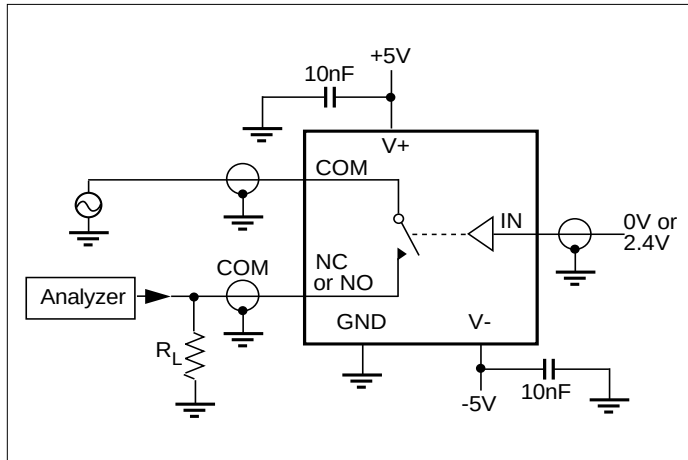

Figure 5. Off Isolation
7. Off Isolation = $20 \log_{10} [V_{COM} / (V_{NO} \text{ or } V_{NO})]$. See figure 5.
7. Off Isolation = $20 \log_{10} [V_{COM} / (V_{NO} \text{ or } V_{NC})]$. See figure 5.